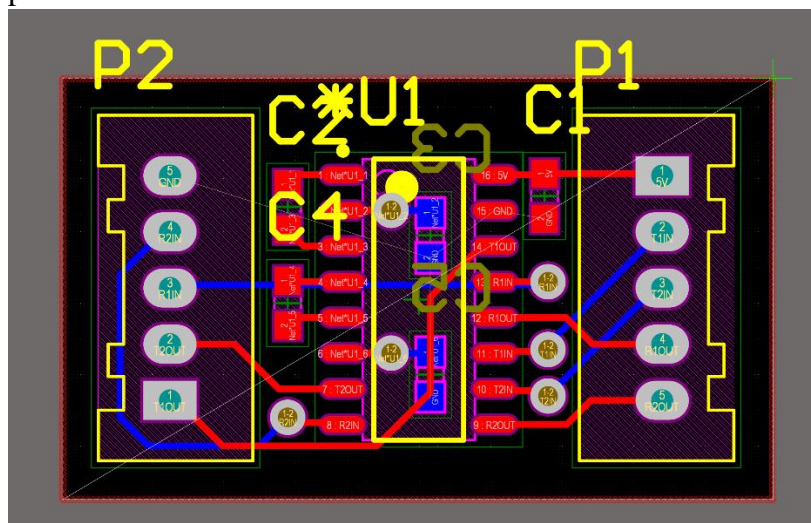

Figure 8: Placing a Polygon Pour
9. Click on each one of the corners of your board as shown in Figure 8 then either click the esc key or right click to exit your pour.